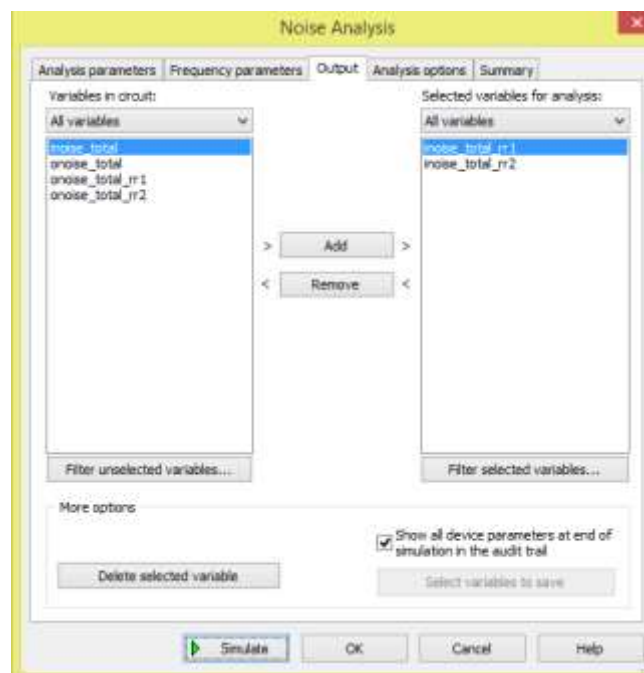

Figure 2 Output tab settings for Noise analysis
6. Repeat this process for the **inoise_total_rr2** variable. The **Output** tab will look as shown in Figure 2.